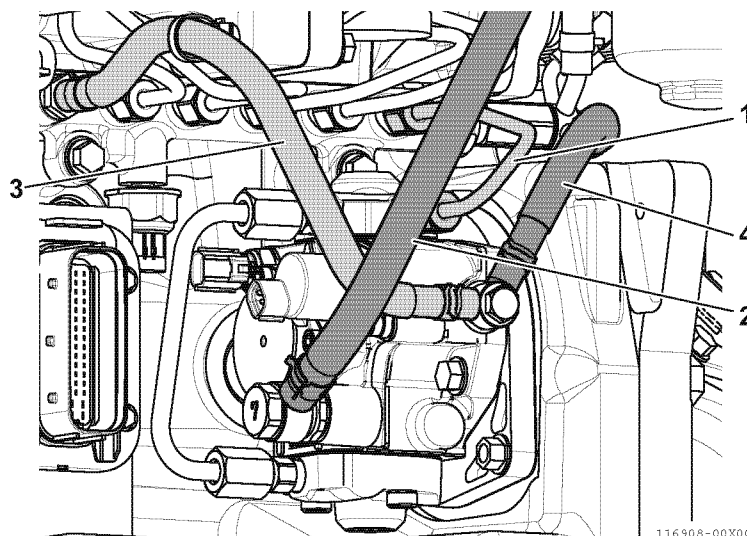

Fig.50-6
- 1 - Clean around the cap nuts on both the pump and rail sides (1, Fig.50-6) using a brush or aspirator.
Remove the fuel supply hose (supply pump fuel inlet side) (2, Fig.50-6) from the fuel filter, disconnect the fuel return hose (3, Fig.50-6) from the rail, and disconnect the fuel overflow hose (4, Fig.50-6) from the supply pump.